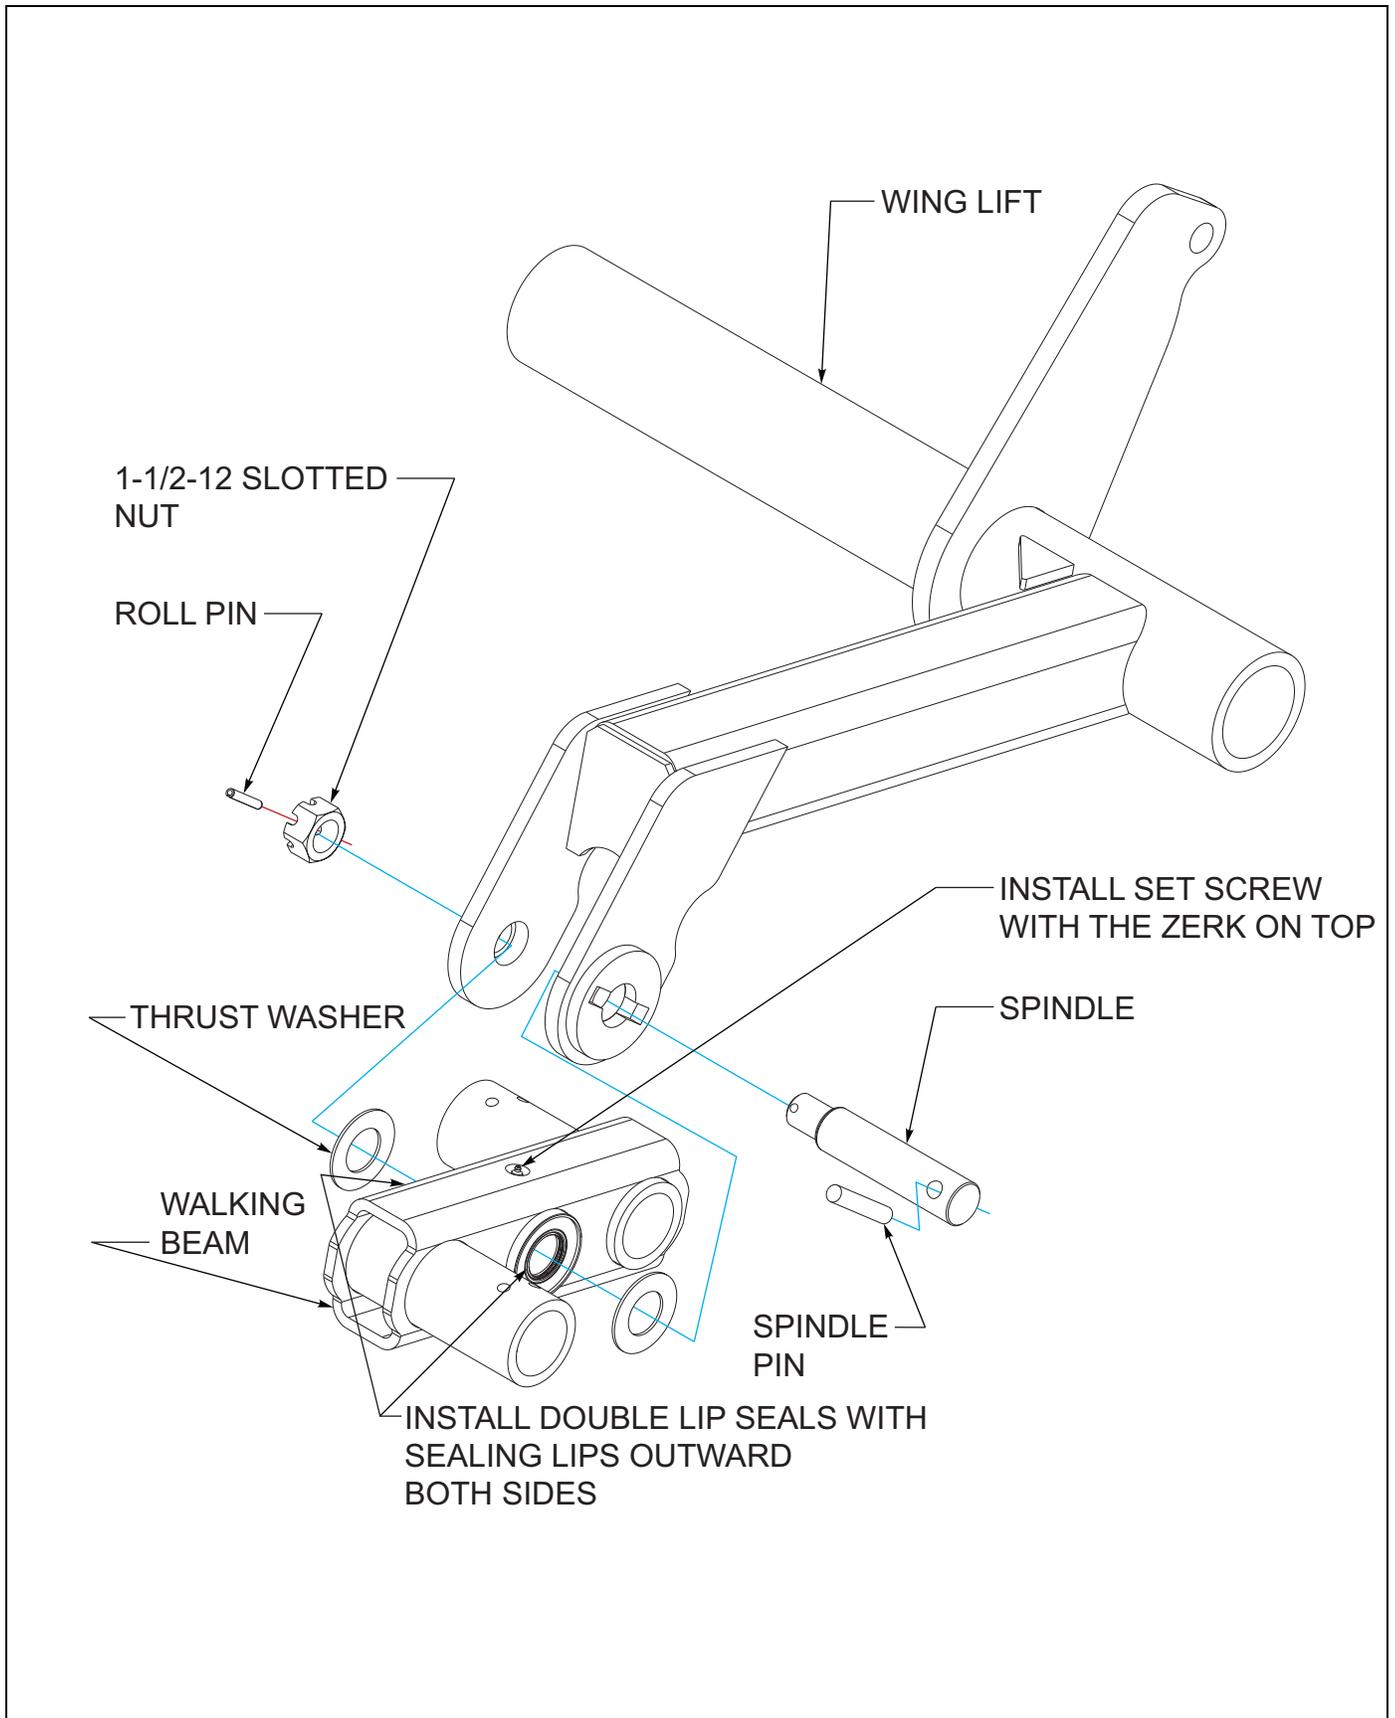

Figure 1-3: Walking Beam Reassembly
2. Align walking beam with axle leg, check to be sure the hubs are in the correct orientation front to rear. **(See Figure 1-3.)**
5. Install the slotted nut on the pivot pin and tighten to 750 to 900 ft-lbs and install roll pin to prevent it from backing off **(See Figure 1-3.)**